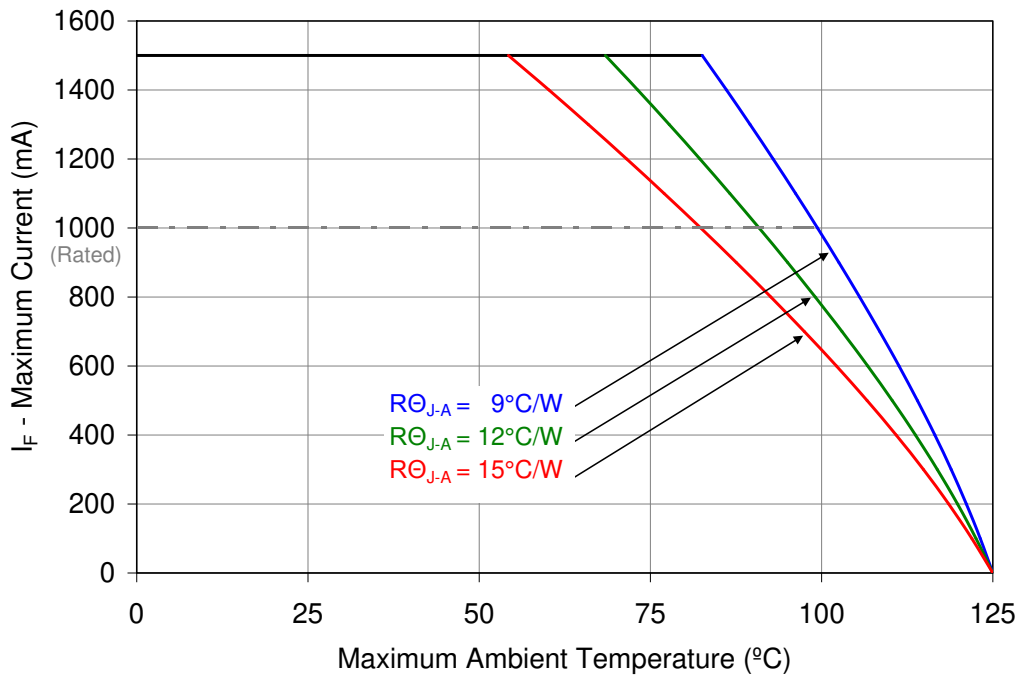

Figure 10: Maximum forward current vs. ambient temperature based on T_{j(MAX)} = 125°C.
- Maximum DC forward current is determined by the overall thermal resistance and ambient temperature. Follow the curves in Figure 10 for current derating.
Notes for Figure 10: